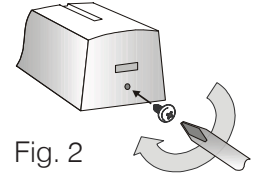

Fig. 2
7. The tab can be fixed using supplied screw (Fig. 2).